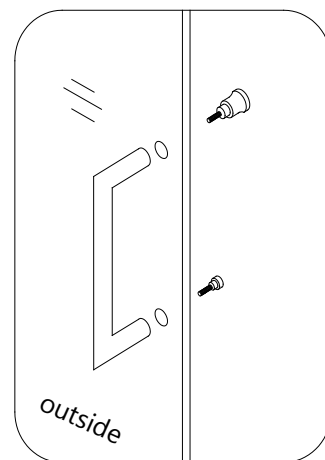

Fig 21
21. Attach the **Handle (#02)** onto the **Glass door (#01)**. **(Fig 21)**